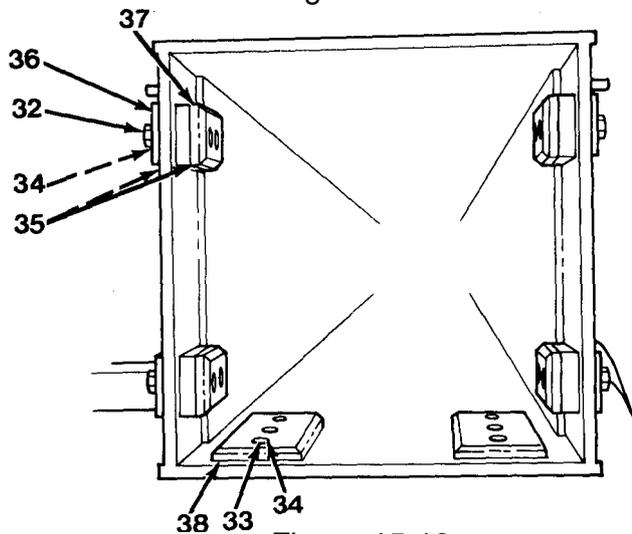

Figure 15-13
5. Install 2 large wear pads (38), 4 small pads (37), spacers (36), shims (35), 14 washers (34), 6 capscrews (33) and 8 capscrews (32, Figure 15-13) to front end of boom base.